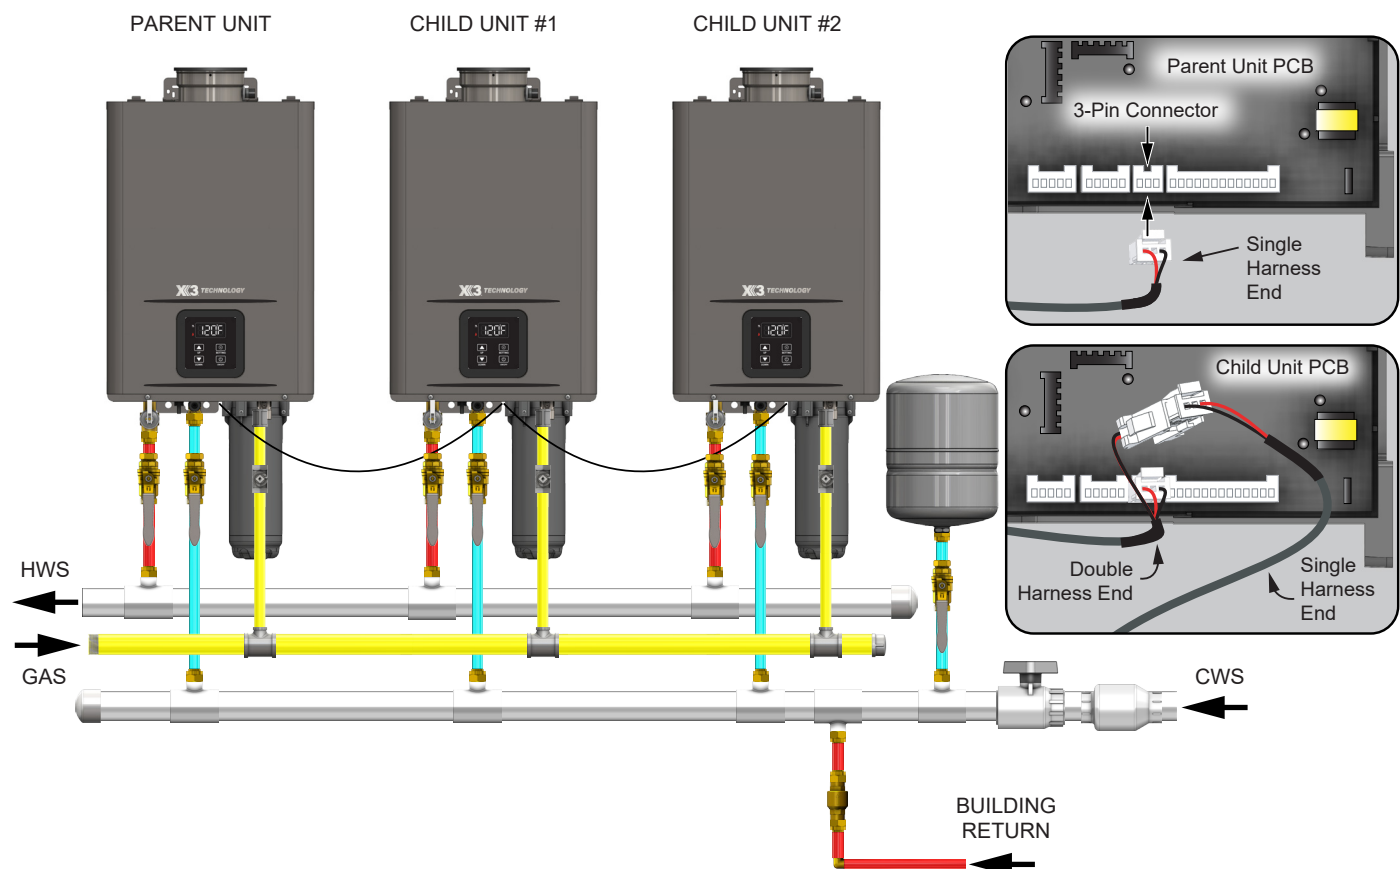

Figure 31 - Multi Unit Cascade Configuration
- 1** The Cascade system should be configured with the Parent water heater as either the first or last in the series of water heaters connected to the cold water supply. The Child units will follow sequentially. See Figure 31.
- 7** Use Figure 31 as a reference to locate the connection point for the Parent Cascade Unit. Use the single harness end of the Cascade Linking Cable to make the initial connection.
first Cascade Linking Cable as shown in Figure 31.